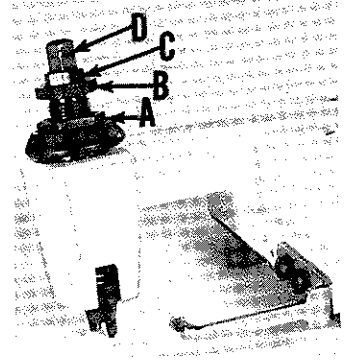

Fig. 2
Sufficient presser foot pressure to feed work uniformly should be maintained. Should it be necessary to increase or decrease amount of pressure on presser foot, loosen lock nut (A, Fig. 2) and turn adjusting screw (B). Adjusting screw has a right handthread so tightening increases pressure, loosening decreases pressure. When pressure adjusting screw (B) has been properly set, tighten lock nut (A). With presser foot resting on throat plate, position locking nut (C) so that its under surface is approximately $1/32$ inch to $1/16$ inch from the top surface of adjusting screw (B). Set cap (D) against locking nut (C).